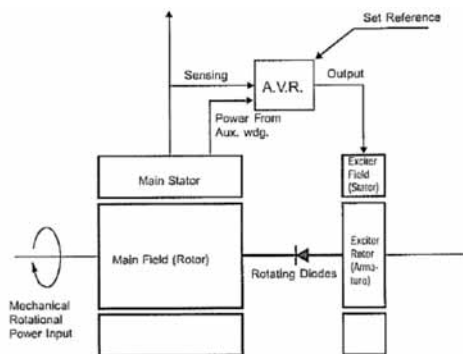

Figure.13.1. Meccalte alternator, operating principles block schematic diagram
The electrical power produced by the generating set is derived from a closed loop system consisting principally of the exciter rotor the main revolving field and the automatic voltage regulator (see Figure 13.1) The process begins when the engine starts to rotate the internal components of the alternator. The residual magnetism in the main rotor produces a small alternating voltage (AC) in the main stator. The automatic voltage regulator rectifies this voltage (converts it to DC) and applies it to the exciter stator.